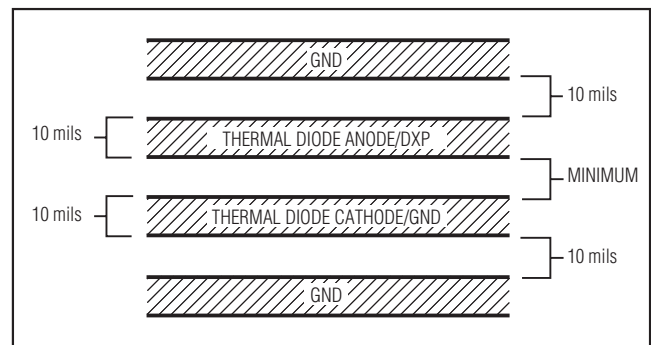

Figure 4. Recommended DXP PC Traces
- 4) Route the thermal diode traces in parallel and in close proximity to each other, away from any higher voltage traces, such as +12VDC. Leakage currents from PCB contamination must be dealt with carefully since a $20\text{M}\Omega$ leakage path from DXP to ground causes about $+1^{\circ}\text{C}$ error. If high-voltage traces are unavoidable, connect guard traces to GND on either side of the DXP trace (Figure 4).
- 7) Use wide traces. Narrow traces are more inductive and tend to pick up radiated noise. The 10-mil widths and spacing recommended in Figure 4 are not absolutely necessary, as they offer only a minor improvement in leakage and noise over narrow traces. Use wider traces when practical.